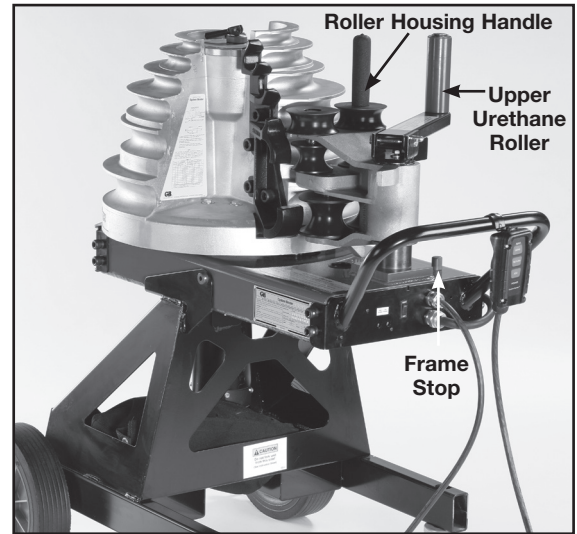

**Figure 10. Set Angle Indicator**
- a. Lift the locking handle to release the angle set knob and angle disc. Use the two small pins to rotate the angle disc, clockwise. See Figure 10.
- b. Set the bender for specific conduit size by turning the angle disc until the red line is on an outer size scale mark which matches the size conduit being bent. See Figure 10. Be sure the correct size scale is being used (EMT, IMC, or Rigid).
- c. Move the angle set knob (See Figure 10) until the flat edge of the pointer is on the line indicating the exact degree of bend desired. Lower the center arm to lock the pointer, angle disc and to prevent inadvertent movement during bending.